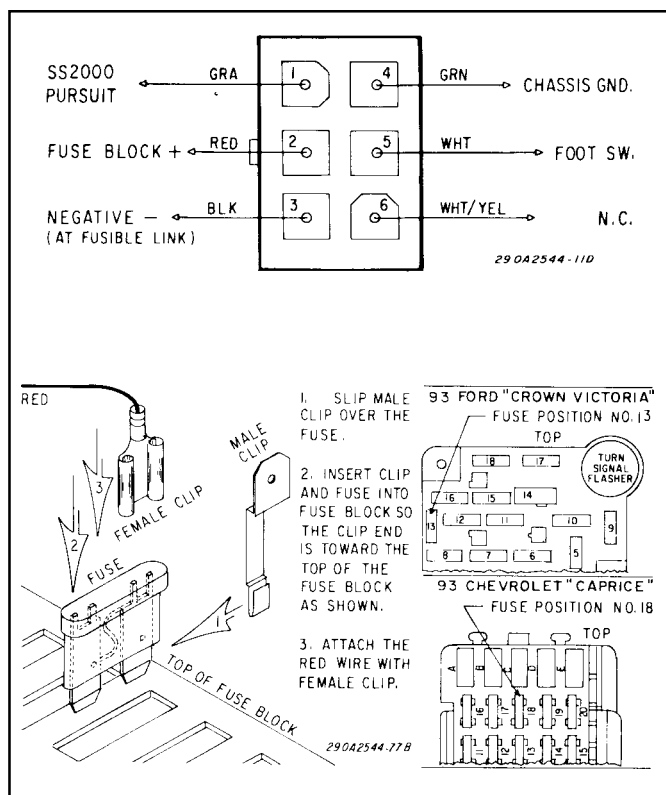

Figure 3-8. Interface/Relay Unit Power Cable and Fuse Clip Adapter Installation.
1. Connection to Power Source (see figure 3-8).
b. Route the red (+) power cable lead to the fuse block (see table 3-1) or user-supplied switch. When the red (+) power cable lead is routed to the fuse block, install the fuse clip adapter (supplied) as shown in figure 3-8.
c. See figure 3-8. Connect the other side of the switch to the power cable's white wire using #18AWG or larger wire.